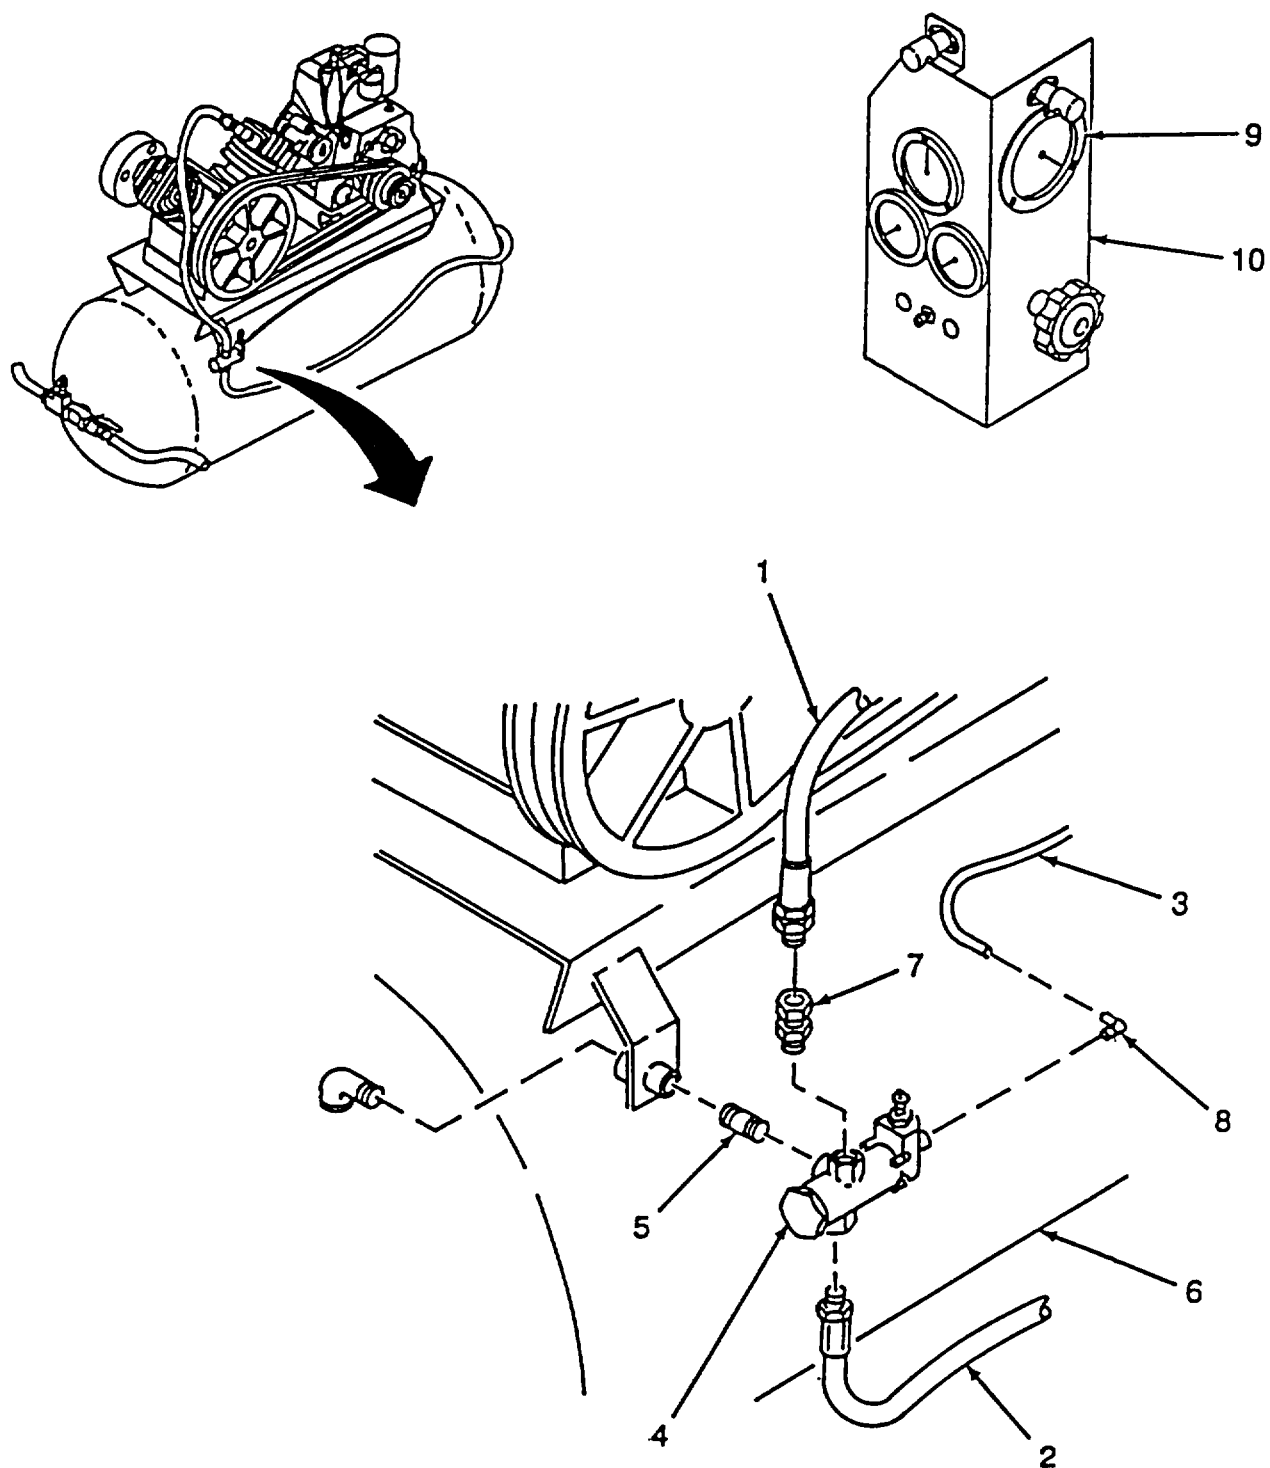

Figure 4-29. Unloader Valve
a. Removal. (Refer to Figure 4-29).